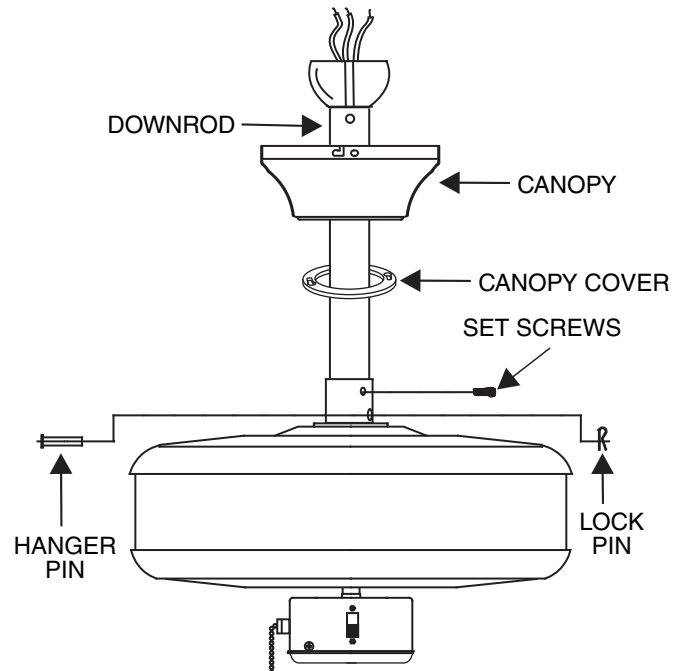

FIGURE 6
4. Route wires exiting from the top of the fan motor through the canopy cover and canopy and then through the ball/downrod. (Fig. 6)
5. Select either the short or long downrod (included with the fan) and align the holes at the bottom of the downrod with the holes in the collar on top of the motor housing. Carefully insert the hanger pin through the holes in the collar and downrod. Be careful not to jam the pin against the wiring inside the downrod. Insert the lock pin through the hole near the end of the hanger pin until it snaps into its locked position. (Fig. 6)